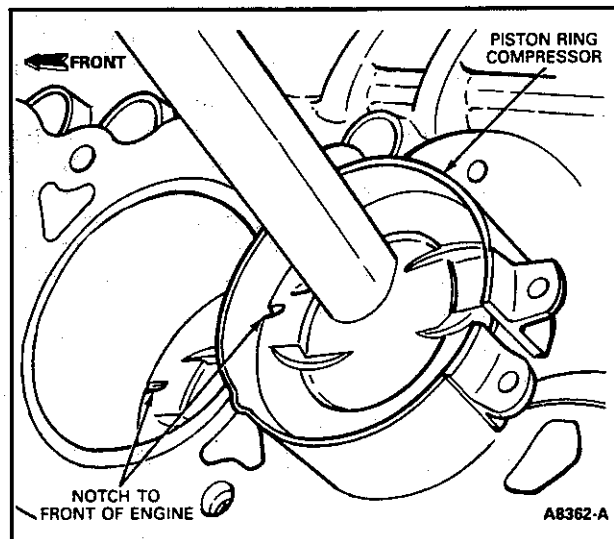

Figure 68 Installing Piston
4. Install piston ring compressor on the piston and push the piston in with hammer handle until it is slightly below top of the cylinder (Figure 68). Be sure to guide connecting rods to avoid damaging the crankshaft journals. Install the piston with indentation notch in piston head toward the front of the engine.